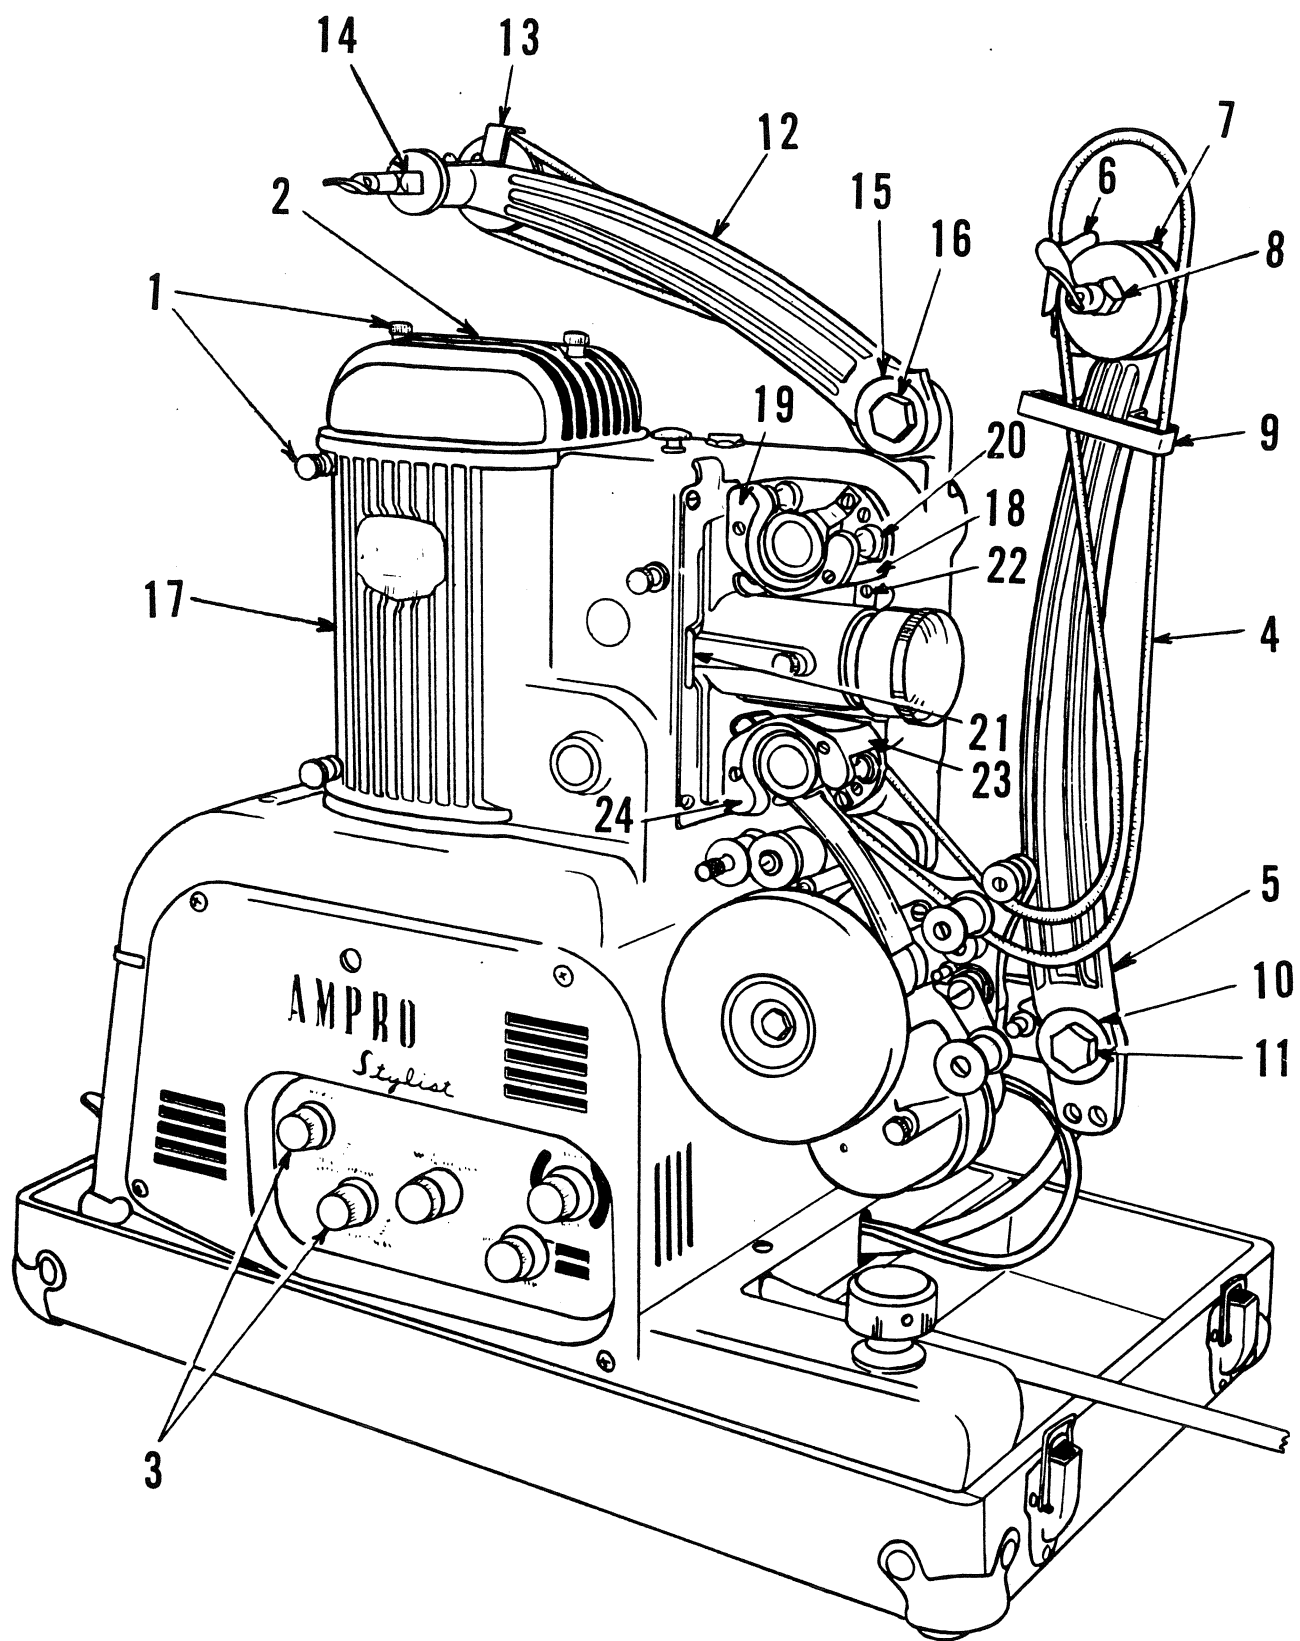

Figure 1 - OPERATING SIDE
A. CLEANING (See Fig. 1)
- b. Film Path - Remove pressure shoe assembly (21) and clean shoe and mounting parts with a cloth dampened with carbon tetrachloride. Clean the aperture plate - deposits of dirt and emulsion may be removed from the notches for the side tension spring with a toothpick or cleaning brush. Take out the two screws which hold each of the sprocket shoe covers (19 & 24) in place and remove the covers. Pull off the eight guide rollers (20) and wash them in carbon tetrachloride. Push the follower roller assembly away from the sprocket and blow out any dust or other foreign material. Run the projector and brush the sprocket teeth and sprocket body.